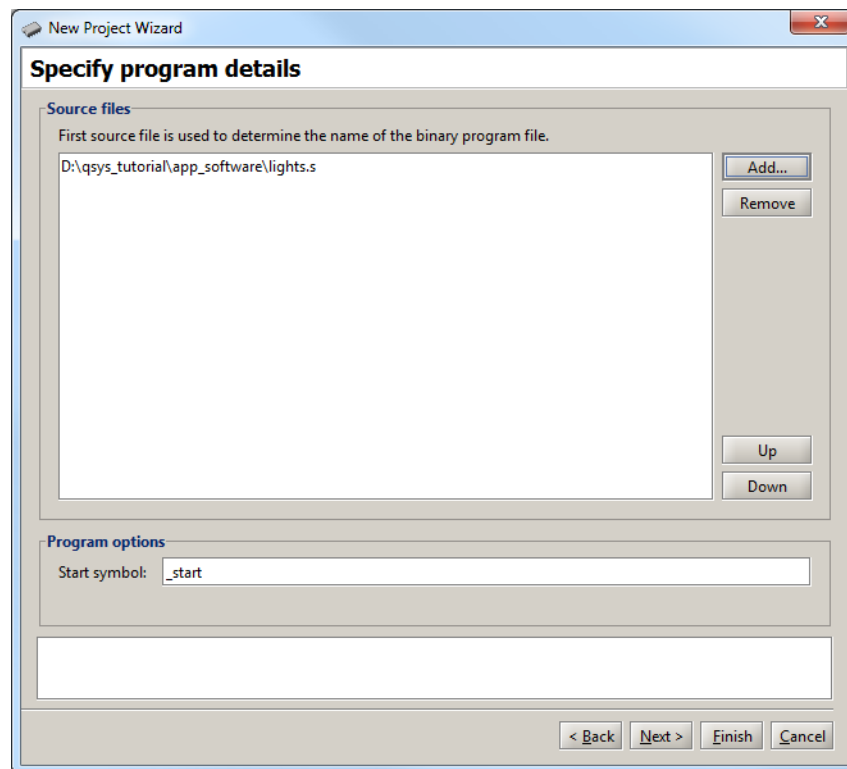

Figure 30. Specify the application program to use.
5. Click **Add...** to display a file selection window and choose the *lights.s* file, or *lights.c* for a C program, and click **Select**. We placed the application-software files in the directory *qsys\_tutorial\app\_software*. Upon returning to the window in Figure 30, click **Next**.
6. In the window in Figure 30, ensure that the Host Connection is set to *USB-Blaster*, the Processor is set to *nios2\_processor* and the Terminal Device is set to *jtag\_uart*. Click Next.